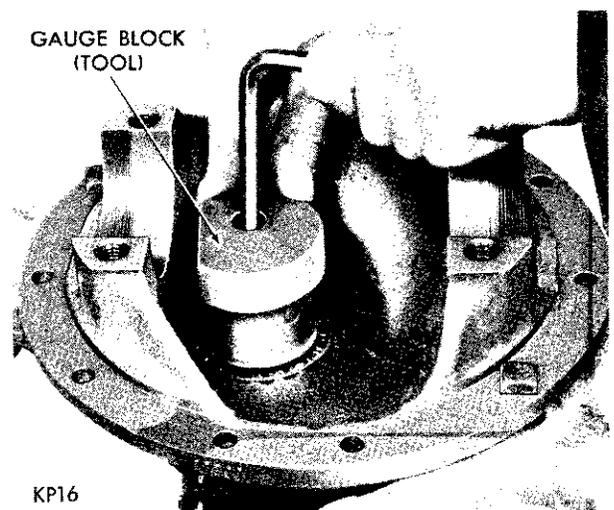

Fig. 27—Installing Gauge Block on Tool
(3) With nose of carrier up, place flange holding Tool C-3281 on compression sleeve. Allow assembly to rotate while tightening nut to not more than 25-50 foot-pounds. **Always make sure bearing cones are lubricated with hypoid gear lubricant.**
(4) Turn tool several complete revolutions in both directions to permit bearing rollers to seat. After bearing rollers are properly seated, check bearing preload by rotating tool with an inch-pound torque wrench. The correct bearing preload should be from 20-30 inch-pounds for new bearings.
(5) With proper bearing preload set, invert carrier in stand and install gauge block SP-528 or SP-3250 to the main screw attaching it with Allen screw securely (Fig. 27). The flat portion of gauge block should be facing differential bearing pedestals.